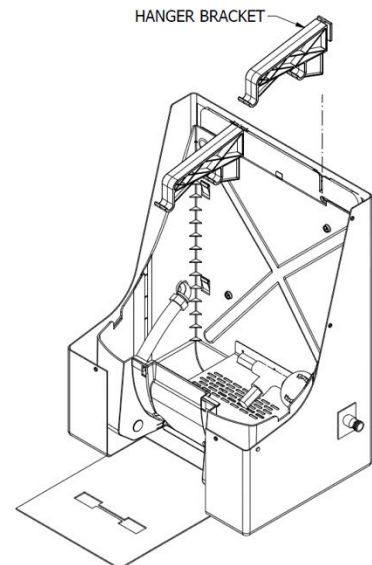

FIGURE 4
Step 3. Hanger Brackets (Ref Figure 4)